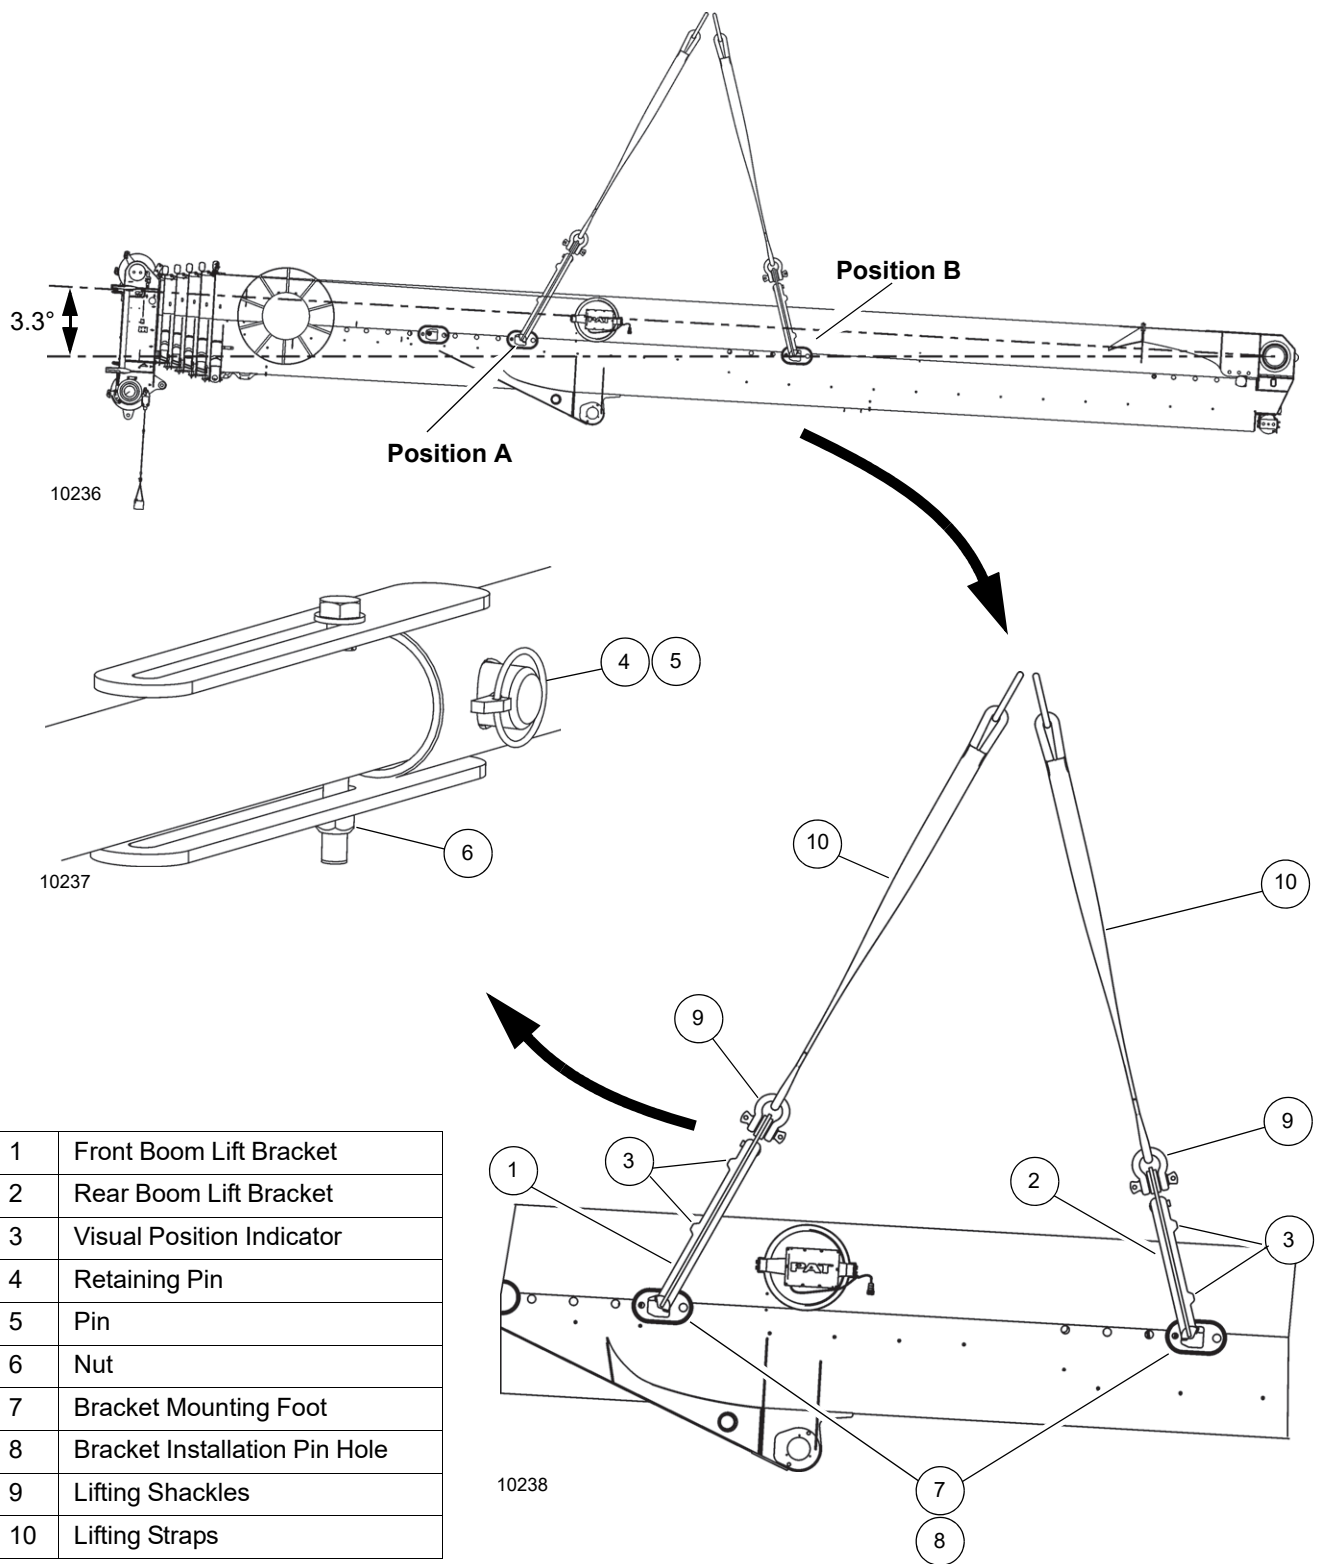
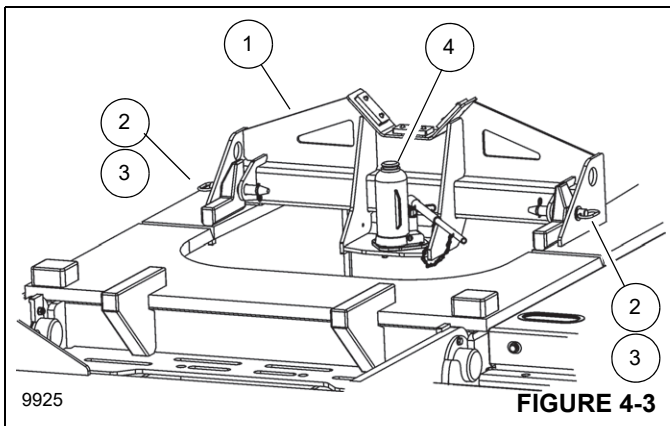

FIGURE 4-2
FIGURE 4-3
10. Install the front (1, Figure 4-2) and rear (2) boom lift brackets as follows:
- a. Remove retaining pin (4) and pin (5). Loosen nut (6). Expand the front boom lift bracket (1) to fit over the boom.
11. If necessary, install the lift cylinder support (1, Figure 4-3) on the carrier as follows:
15. Turn the direction lever (3) to the correct position. Use the hand pump (4) to remove the lift cylinder pivot pin. Tag and identify the locations of shims.
16. Use bottle jack (4, Figure 4-3) on the lift cylinder support (1) as necessary to adjust the position of the lift cylinder pivot pin.
2. Attach the front (1, Figure 4-2) and rear (2) lifting brackets to the boom. For more information, see step 10 on page 4-2.
11. Turn the direction lever (3, Figure 4-4) to the correct position. Use the hand pump (4) to install the lift cylinder pivot pin. Use the hand pump (4) and bottle jack (4, Figure 4-3) on the lift cylinder support (1) as necessary to adjust the position of the lift cylinder rod end is centered on the pivot pin.
13. Install washer (2) and capscrew (1) to secure the lift cylinder pin. Torque the capscrew (1). For more information, see *Fasteners and Torque Values*, page 1-16.
14. Disconnect the straps (10, Figure 4-2) from the lifting device. Remove the straps (10) and front and rear boom lift brackets (1 and 2).